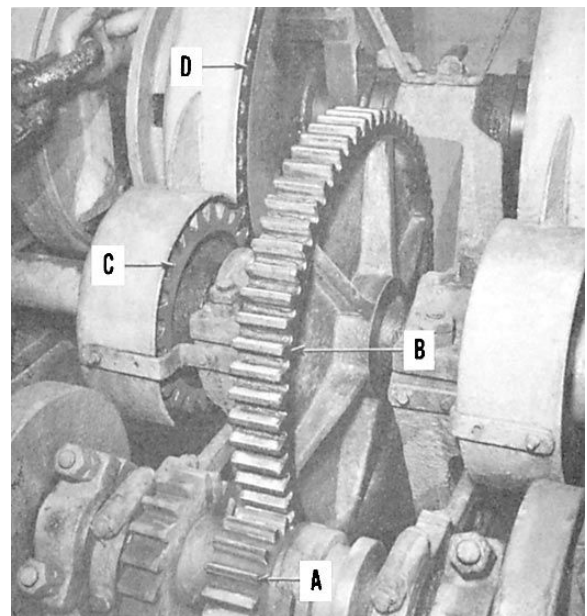

Figure 6-14.—An anchor winch.
One of the gear systems you'll get to see frequently aboard ship is that on the anchor winch. Figure 6-14 shows you one type in which you can readily see how the wheels go around. The winch engine or motor turns the driving gear (A). This gear has 22 teeth, which mesh with the 88 teeth on the large wheel (B). Thus, you know that the large wheel makes one revolution for every four revolutions of the driving gear (A). You get a 4-to-1 theoretical mechanical advantage out of that pair. Secured to the same shaft with B is the small spur gear (C), covered up here. The gear (C) has 30 teeth that mesh with the 90 teeth on the large gear (D), also covered up.